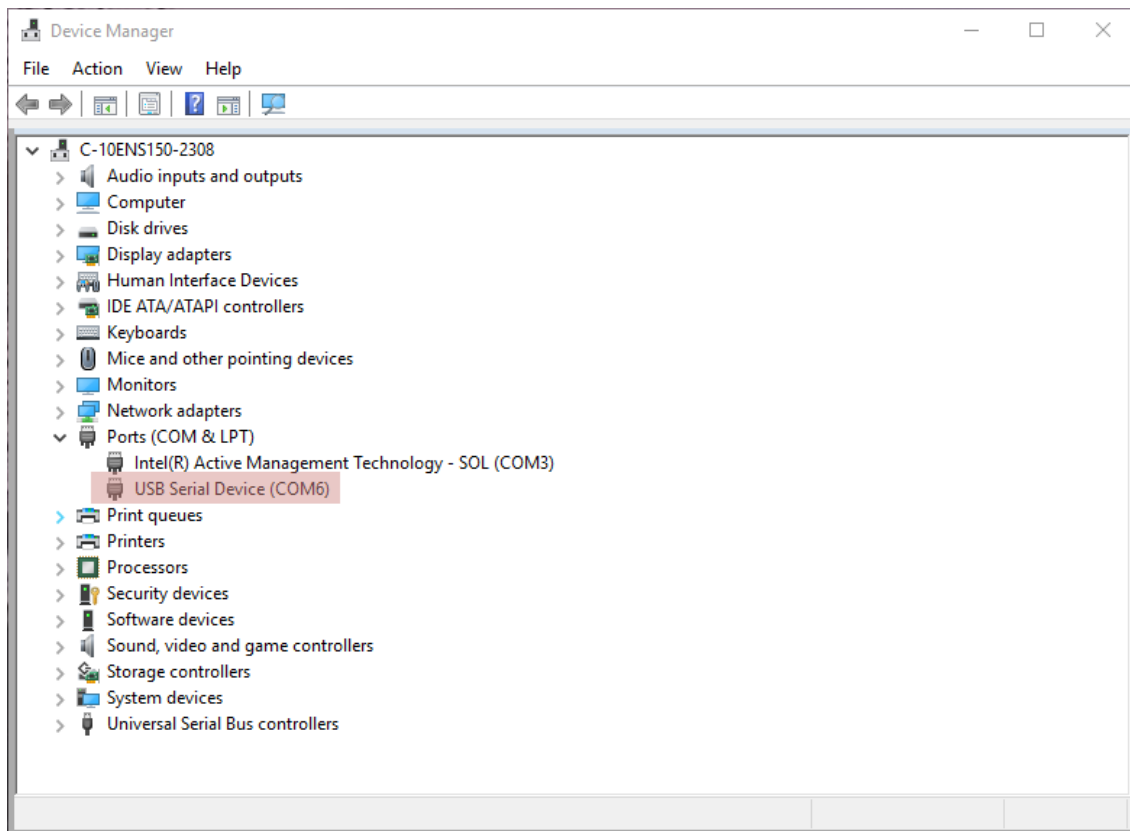

Figure 6: Device Manager with the motor controller COM port highlighted
- Find the COM port number of the motor controller by looking in the Windows Device Manager. Admin privileges are not necessary. Figure 6 shows the device manager with the motor controller highlighted. If you are unsure what port the motor controller is using, disconnect and reconnect the motor controller and see what port it shows up on.